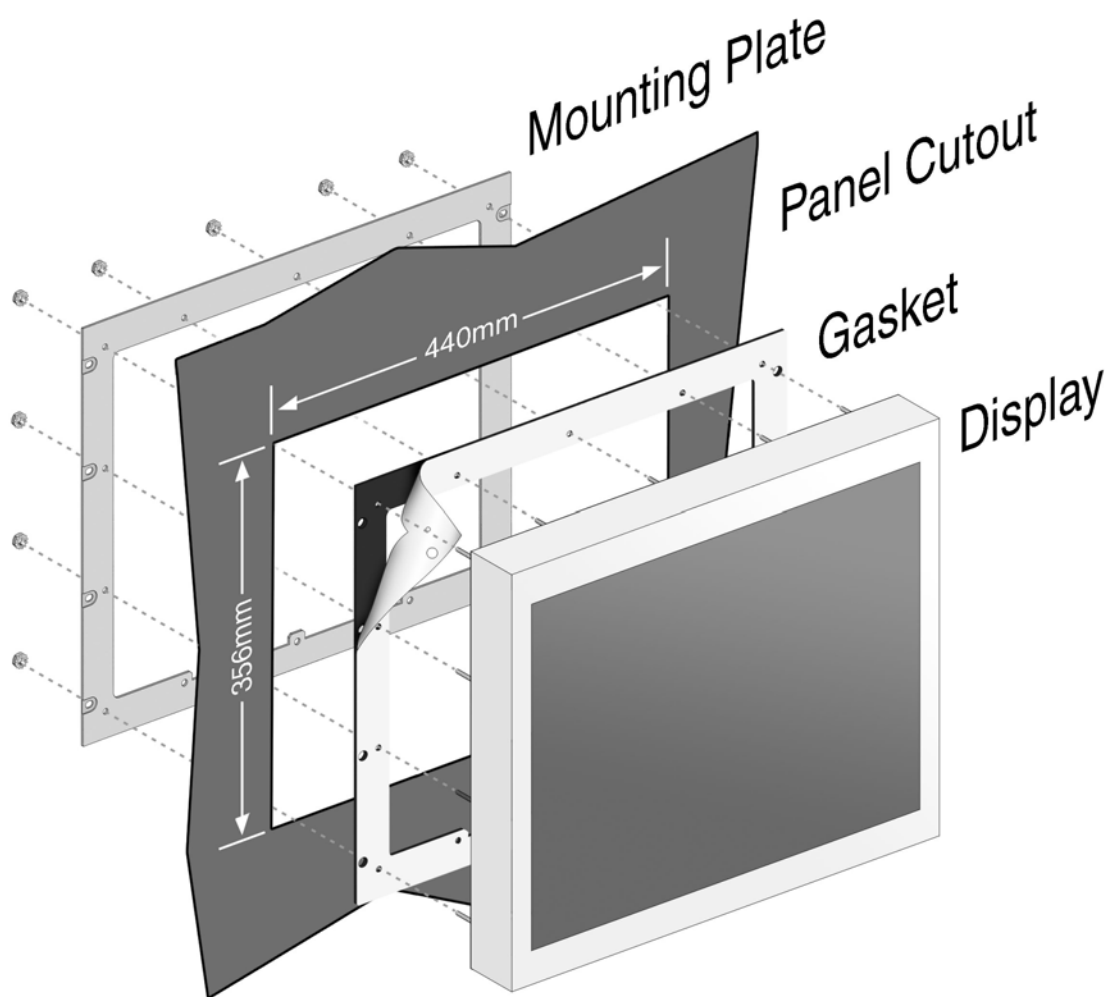

Figure 6: Panel-Mount Landscape Installation
1. Panel cutout is 356mm H x 440mm W for landscape installation (Figure 6).
3. Align studs on the CYRAQ with the holes in mounting plate from the rear of panel (as seen in Figure 6).